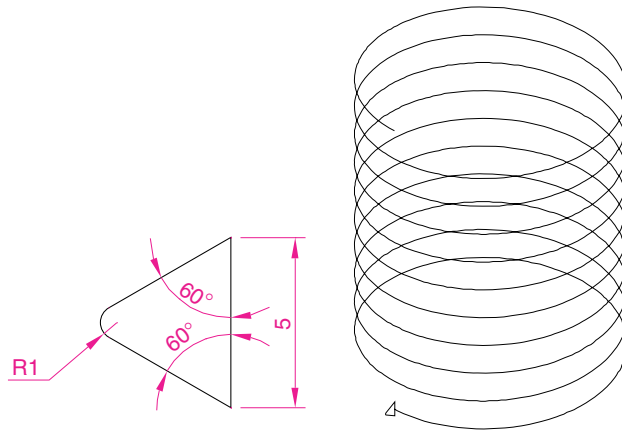

Fig. 15.34 First example **Helix** – the polyline outline and the helix
1. Construct the triangular outline shown in Fig. 15.34 using the **Polyline** tool. Make sure the pline outline is placed at right angles to the bottom end of the helix as shown in Fig. 15.34. This may mean moving and rotating the outline in a selection of the **3D Views**.